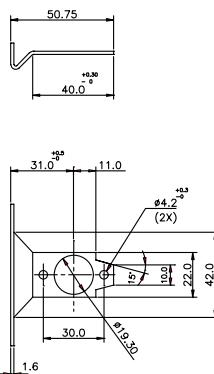

Fig. 1
2. Remova o copo (Fig. 1)
*Remove bowl (Fig. 1)*